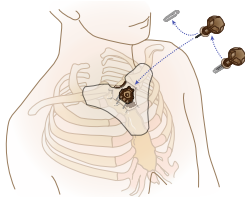

FIGURE 8
12. **Remove and discard Needle Set safety cap.** (See Figure 8)